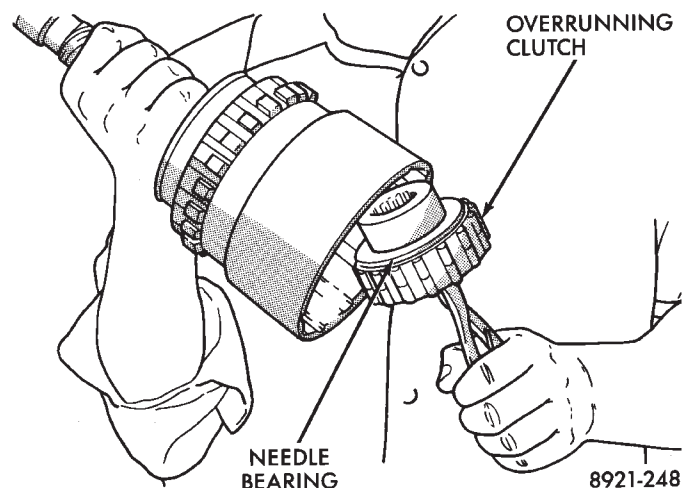

Fig. 320 Removing Overrunning Clutch Assembly
- (12) Remove overrunning clutch assembly with expanding type snap ring plier (Fig. 320). Insert pliers into clutch hub. Expand pliers to grip hub splines and remove clutch with counterclockwise, twisting motion.